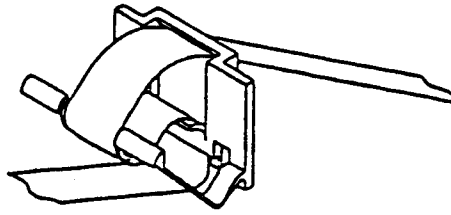

Figure A-9. Feeding the Flexible Cable
6. Feed the flexible cable through the FPC clamp again as shown in Figure A-9.